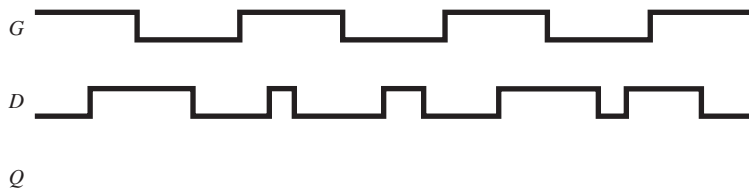

Figure P8
8. Sketch the Q output waveform for the gated D flip-flop of Figure 12 given the D and G inputs shown in Figure P8.